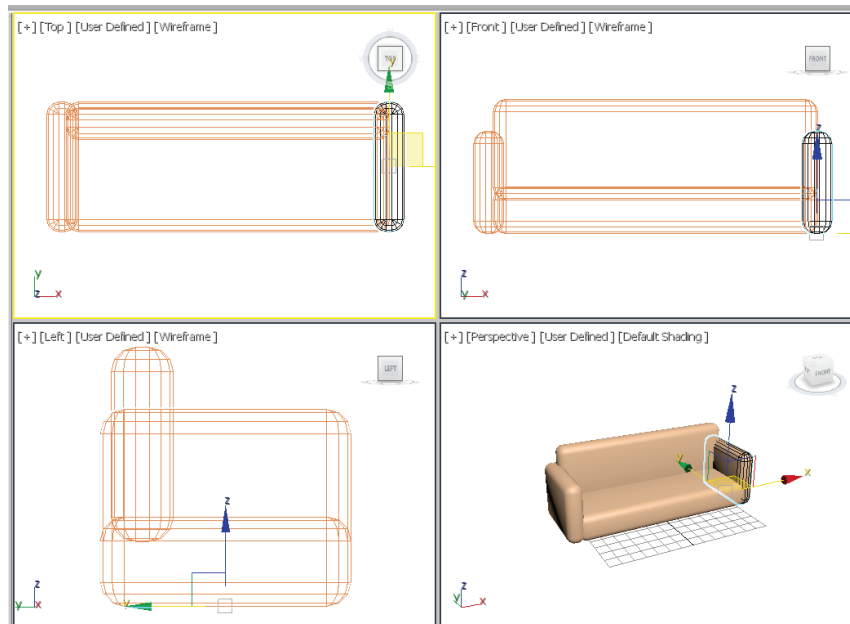

Figure 3-25 The right side geometry displayed in the viewports
3. In the **Clone Options** dialog box, make sure that the **Copy** radio button is selected and the value in the **Number of Copies** spinner is set to **1**. In the **Name** text box, enter **right side** and choose **OK**; *right side* of the couch is displayed, as shown in Figure 3-25.